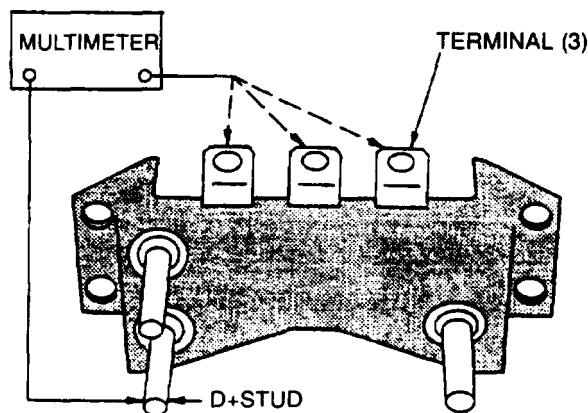

Figure 4-3. Diode-Trio Test
- b. Set multimeter for ohms and check diode-trio assembly (Figure 4-3) by noting multimeter indications between D+ stud and each of stator terminals. Reverse multimeter leads, repeat checks and note indications. If readings are the same in both directions for any diode, replace entire diode-trio assembly. A good diode will show a high indication in one direction and a low indication in the other.